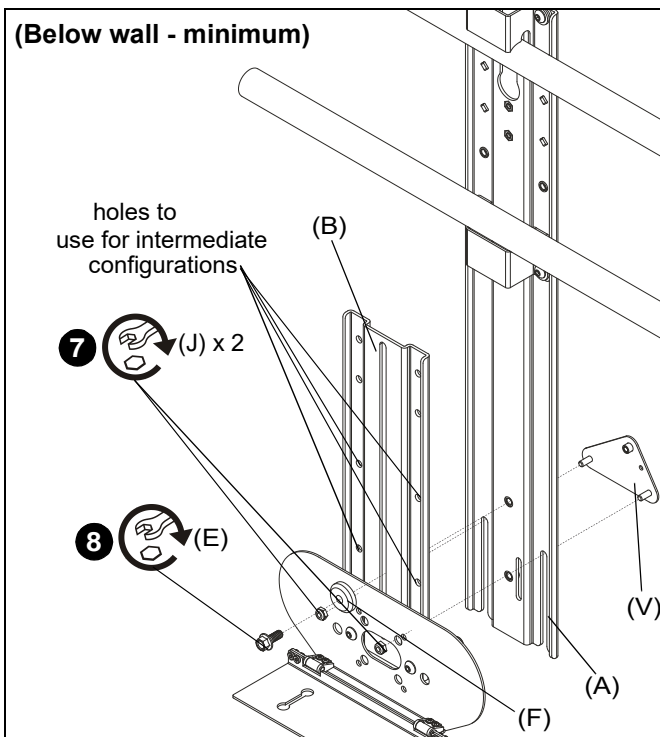

Figure 6
- (For **minimum/intermediate extension**) Use two #10-24 lock nuts (J) to secure upright bracket (A) to main bracket (B) and adapter plate (H). (See Figure 6)
**NOTE:** Camera shelf (D) will need to be temporarily removed in order to attach lock nuts (J) for minimum extension.
- (For **minimum/intermediate extension**) Use 1/4-20 x 5/8" hex head flange bolt (E) and center washer (F) to secure upright bracket (A) to main bracket (B). (See Figure 6)